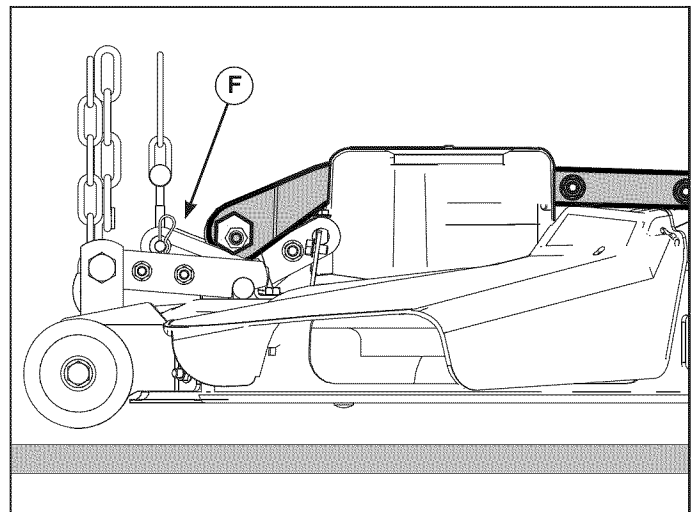

Figure 20
7. Remove the cotter pin and washer at the inner lift bracket (F, Figure 20) and disconnect the inner J-bolt from the bracket. Repeat for other side.
4. Connect the inner J-bolt (**F**, Figure 20) to the inner lift bracket and secure with washer and cotter pin. Repeat for the other side.